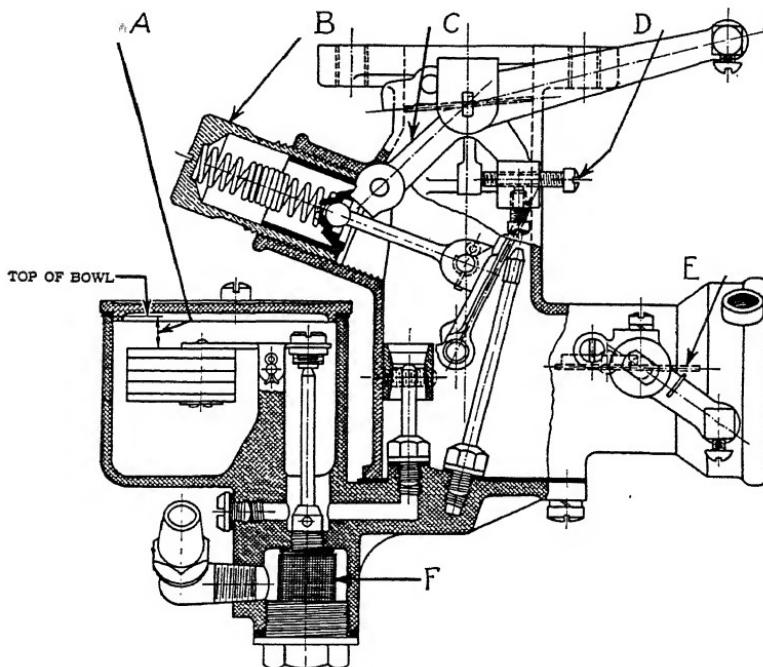

Fig. 87. Service Drawing of Model "A" Marvel Carburetor
**Servicing Model "A" Marvel Carburetor.** *Preliminary Adjustment.* Preliminary idle adjustment is secured by adjusting the brass sleeve  $B$ , Fig. 87. This is the air screw and by turning it outward a few notches at a time, it will be noted that the engine starts to slow down and falter. After this is noted, proceed to adjust further by turning the air-screw sleeve  $B$  inward a few notches at a time until a smooth and even operation of the engine is secured. As in all cases of carburetor adjustment, it is absolutely necessary to have the engine thoroughly warmed up before proceeding with this adjustment. If the adjustment is screwed in too far, the engine will start to roll and give other signs of being too rich. When the best idle speed with this adjustment is secured, it should be left at this point.
*Adjusting Float Height.* If flooding occurs or if for any other reason it appears evident that the float height and the gasoline level within the float chamber are not correct, the gasoline level should be checked. The correct setting for the float is  $\frac{1}{3}\frac{1}{2}$  inch from the top of the bowl to the top of the float with the float valve in its seat. Measure as indicated at *A* in Fig. 87. When inspecting the float, if there is evidence of the failure of the float or if it seems loggy, it should be replaced with a new one and then the dimensions given should be secured.
*Choker Valve Adjustment.* Much trouble oftentimes is encountered in carburetor adjustments which may be traced to an ineffective choker valve. This is not usually the fault of the carburetor but may be due to faulty operation of the choker-valve operating mechanism. In some cases dirt, dust, or rust prevents the proper operation of the control-valve mechanism. Two things are essential. The first is that when the choker is pulled, the butterfly valve must close fully. The second is that when the choker is pushed in, the choker valve must open fully, as shown by the dotted lines indicated by the arrow *E* in Fig. 87.